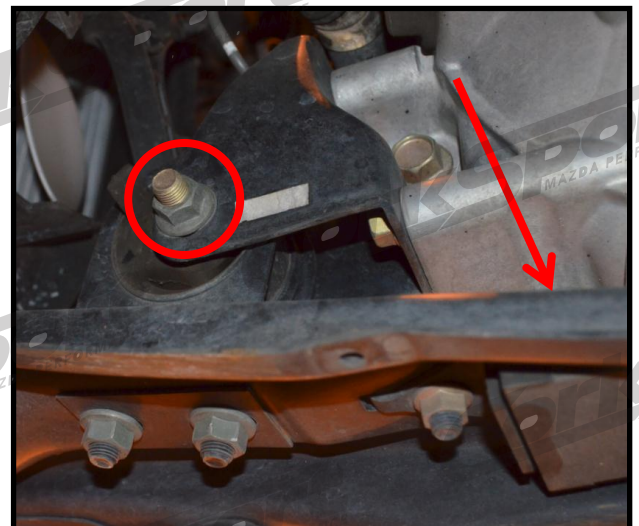

Figure 1b
c) Remove the 17mm nut holding the rear motor mount to motor and remove the factory engine mount (shown circled in **Figure 1b**).
d) In order to pull the factory bolt out of the motor mount and replace it with the CorkSport Motor Mount you will need to hold the motor up slightly. Place a pry bar under the position shown in **Figure 1b** with a red arrow. With very little pressure you should be able to pull the bolt out. Then remove the factory mount and replace it with the CorkSport Mount. Finally replace the bolt that was removed and release the pry bar.
- e) Replace the 17mm Nut removed in step 1c and torque the bolt to 54-66 ft.lbs (refer to **Figure 1b**).